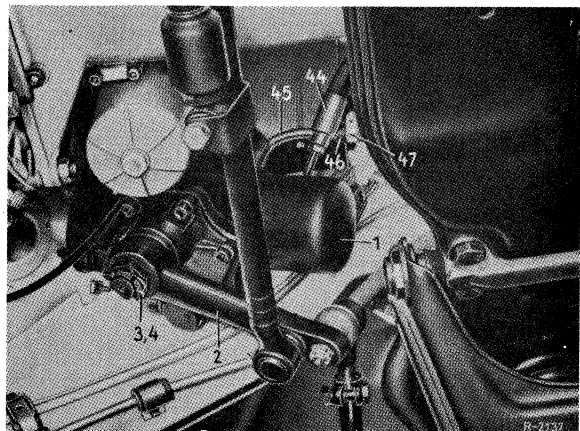

Figure 3
2. Replace the lower steering column tube installed in the steering column by the steering column tube (5) (see Workshop Manual Passenger Cars as of August 1959, Job No. 46-7).
4. Put the pitman arm (2) on the steering shaft of the power steering gear, paying attention to the marking on the pitman arm and on the steering shaft. Screw on the castle nut (3), tighten it with approximately 15 mkg and secure it by means of a cotter pin (4) (figure 3).
10. Secure the tie rod and drag link at the pitman arm (2) (figure 3).
23. Screw the pipe elbow (45) into the return flow fitting of the power steering gear. Then push the low-pressure hose (46) on the pipe elbow (45) and, in the case of vehicles with left-hand drive, on the connection pipe of the tank and secure it by hose clamps (47) (figures 3 and 6).